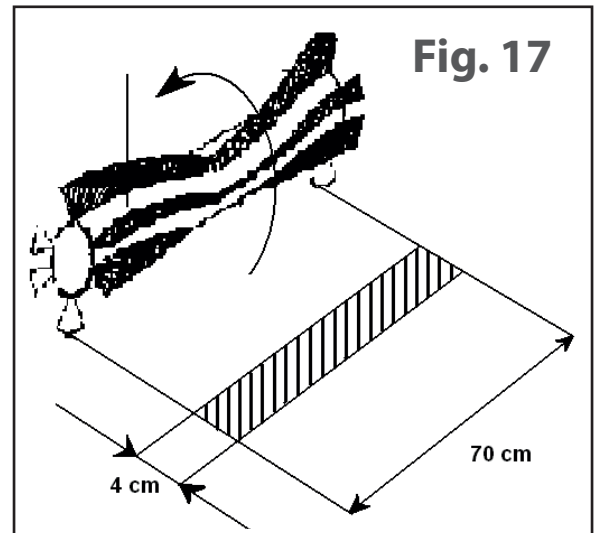

Fig. 17
2. Turn off the engine, raise the central brush and move the machine forwards manually until the mark left on the floor by the rotation of central brush is visible, as shown in **Fig. 17**.
4. Pull out the central brush **Part. 5 Table 1** and proceed to replace this being careful to ensure the brush bristles are in the right direction as shown in **Fig. 17**. Ensure the drive notches of the two brushes supports **Part. 3 and 4 (see Table 1)** are inserted in the brush housing **Part. 5 Table 1**.